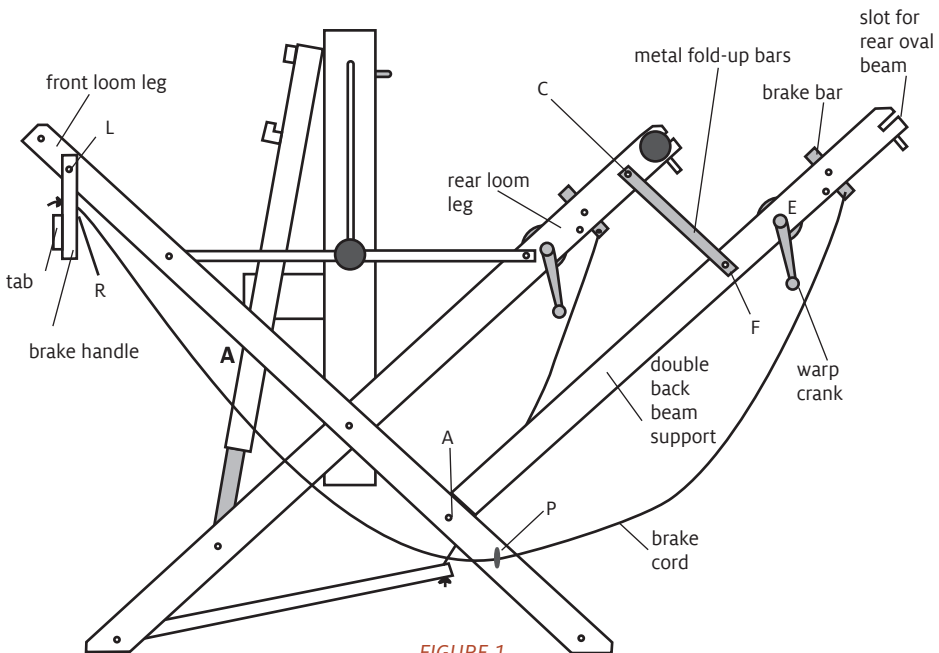

FIGURE 1
Before starting to install your double back beam, find your serial number on the upper right castle side or under the harnesses on the cross-brace. It is most important that you mark and drill these holes accurately to insure that your loom will work its best. You will need 1/8", 3/16", 1/4" and 5/16" drill bits. Refer to figure 1 on the next page.
ATTACH THE DOUBLE BACK BEAM SUPPORTS FIGURES 1 AND 2
3. Insert the 1/4" x 1-1/4" trusshead machine screws through the round hole in the fold-up bars and screw them into the insert on the inside of the double back beam supports at (F) in figure 1.
ASSEMBLE THE BRAKE RELEASE SYSTEM (FIGURE 1)
8. Place a regular 3/8" washer over each axle on the second warp beam. Insert the threaded brake axle into the hole E in figure 1. You will need to spread the double back beam supports slightly to fit both axles in place. Place the larger diameter 3/8" washer over the threaded brake axle on the outside of the double back beam support. Place the warp crank handle over the threaded brake axle with the wood handle pointing away from the loom. Secure it with the cap nut (diagram 2). Use the crank as a wrench to tighten the cap nut.